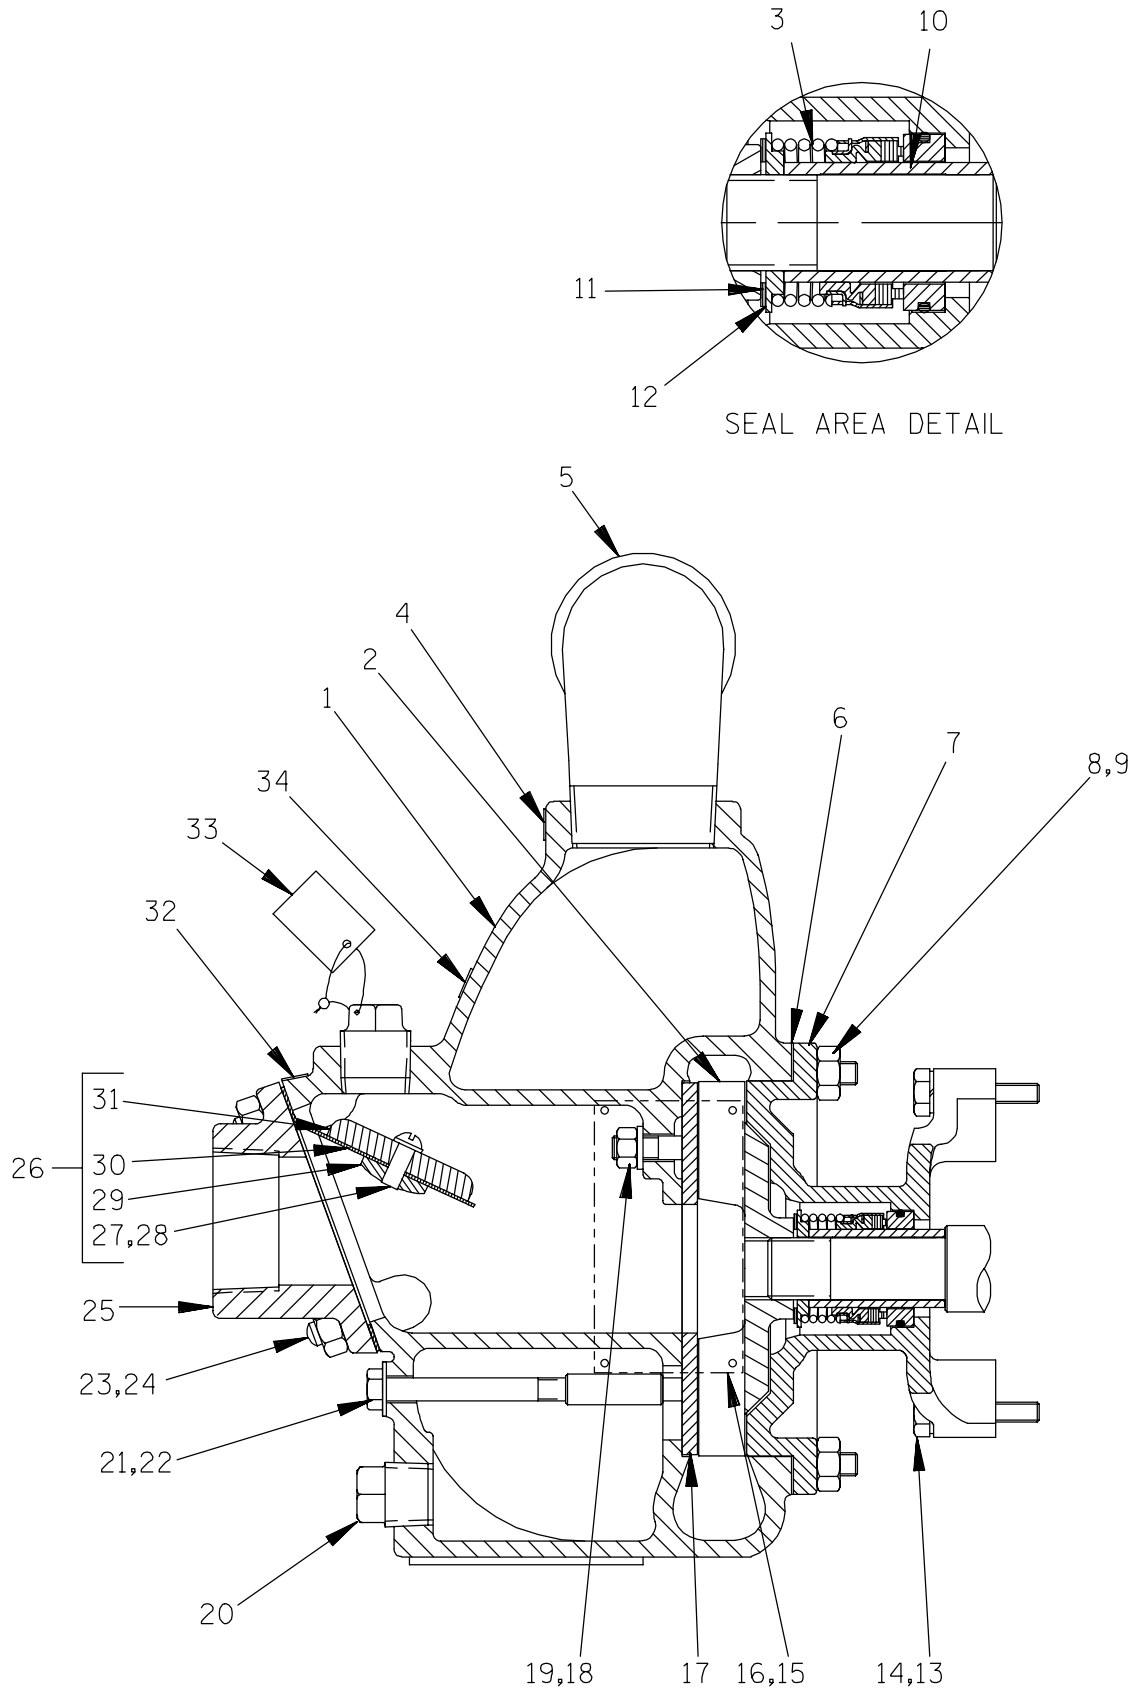

Figure 2. Pump End 82E1-(L100EE-X)
(Figure 2)
**(Figure 2)**
**Impeller Removal****(Figure 2)**
**Seal Removal****(Figures 2 and 3)**
**Seal Reassembly and Installation****(Figures 2 and 3)**